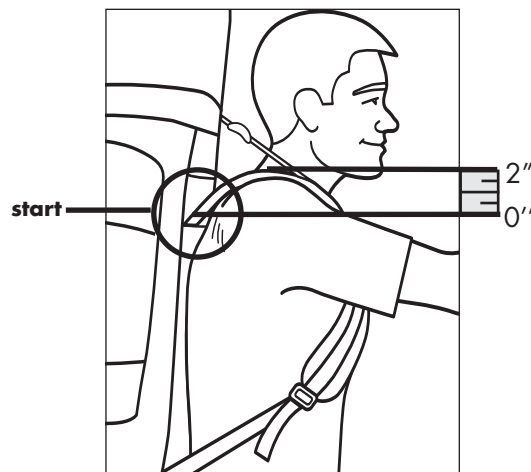

Figure 2C
- C. Once the waistbelt is in the correct position, tighten the shoulder straps.** To tighten shoulder straps pull the webbing at the lower ends of the shoulder strap down & back. The pad of the shoulder strap should start one to two inches below the top of your shoulder (**Figure 2C**). (Put a little more load on your shoulders than you want to end up with.) During this operation the load-lifter straps should be kept loose.